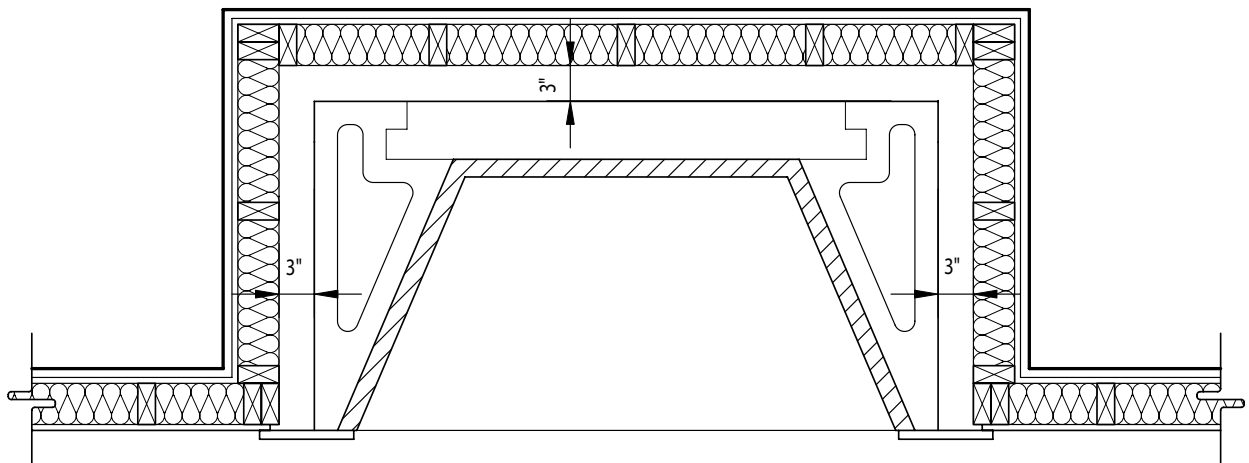

FIGURE 75
Keep all insulation and vapor barriers a minimum 3" away from all Iskern surfaces. (Figure 75)
**Keep all insulation, vapor barriers, "house wrap" paper and other insulating type membranes and products, including fiberglass, cellulose and other insulation, a minimum of three inches (3") away from all MAGNUM surfaces. (Figure 75)**
When MAGNUM fireplace installations are surrounded by walls that are to be insulated, the walls must have enough clearance to the Iskern unit in order to maintain the three inch (3") minimum clearance to insulation. (Figure 75) Never spray the MAGNUM fireplace with any type of sealer, insulation or other material.